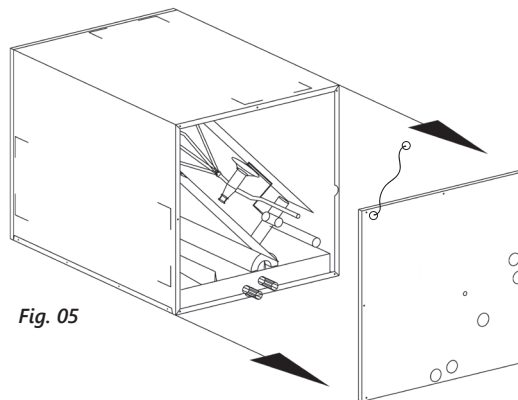

Fig. 05
- 1)** Remove front door from cooling module, using caution to not damage refrigerant sensor wiring harness. (Fig. 05) Remove strain relief grommet & wire from door if desired (not necessary).